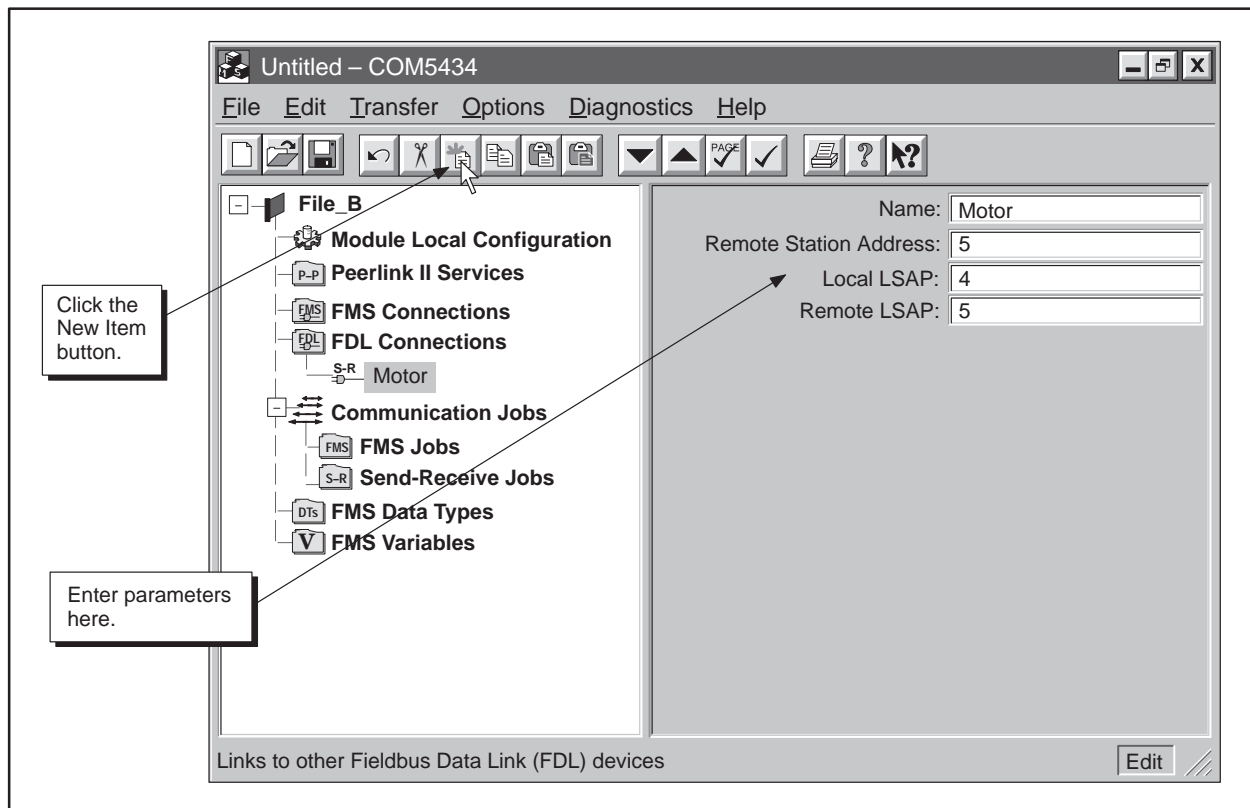

Figure 6-14 FDL Connection for Station 1
3. Complete the fields listed below (and shown in Figure 6-14) to define the FDL connection for Station 1.